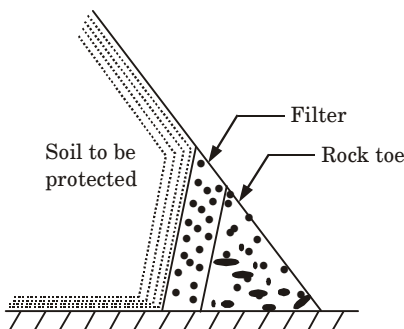

Fig. 4. Use of filter at the toe of an earth dam.
4. For example, consider the earth dam section shown in Fig. 4.
6. Hence, for the safety of the structure, a filter should be placed between the fine soil and the rock toe as shown in Fig. 4.